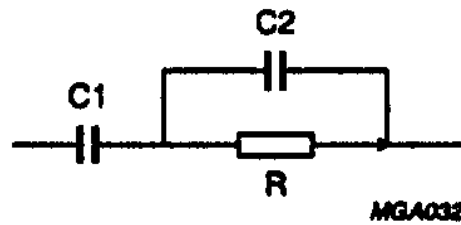

Fig.8 Loop filter.
- $I_{CP}$  = charge-pump current (A)
- $C1$  and  $C2$  = loop filter capacitors (see Fig.8)